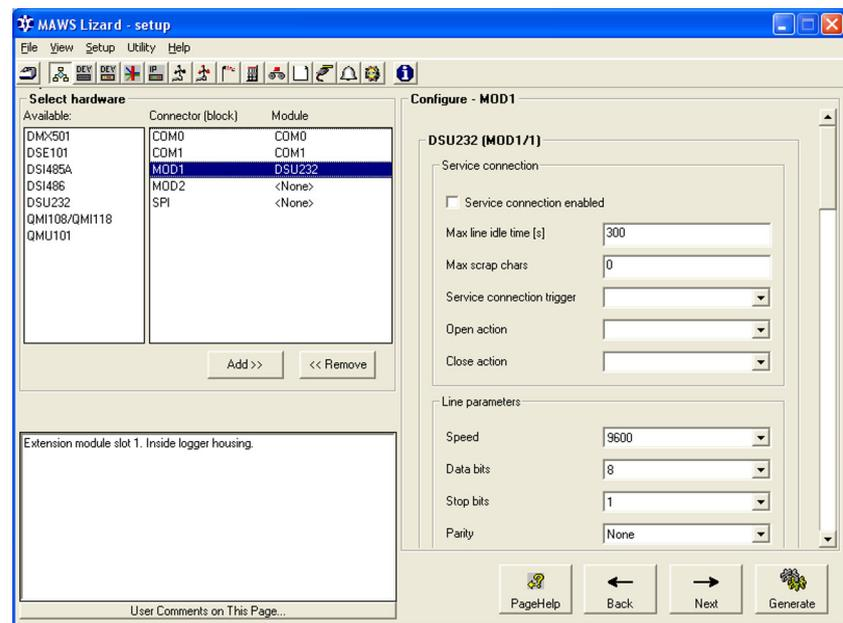

Figure 32 Optional Hardware View: Configuring Serial Transmission Hardware for Humidity and Temperature Transmitter
1. Configure the serial transmission hardware in the **Optional hardware** view as shown in Figure 32 on page 75.